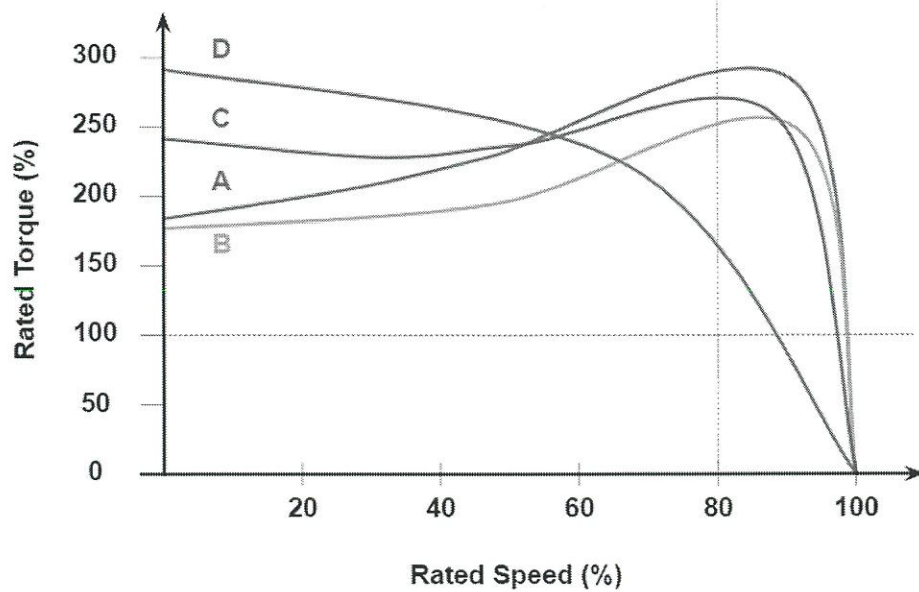

Figure Q2(b)
- (b) Based on **Figure Q2(b)**, if the motor is used for cooling application, explain which types of motor class is the most suitable with proper justification. (2 marks)